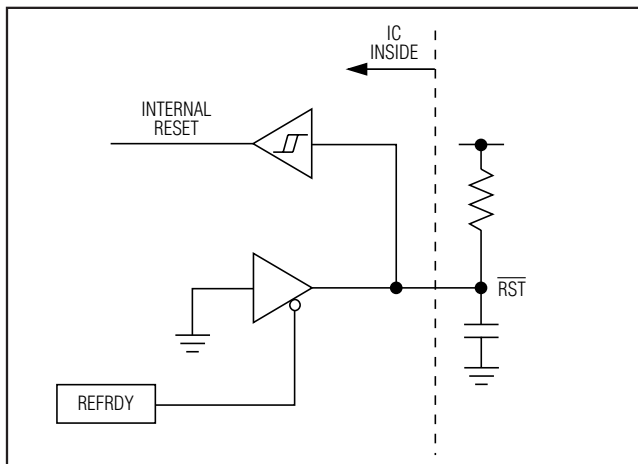

Figure 8. Reset Functional Diagram
- Once V_{IN} exceeds V_{UVLO} , V_{REF} will start up. When V_{REF} is higher than 1.0V, $\overline{\text{RST}}$ will be released and its output becomes high impedance. External RC (Figure 8) will be charged up by their pullup voltage.